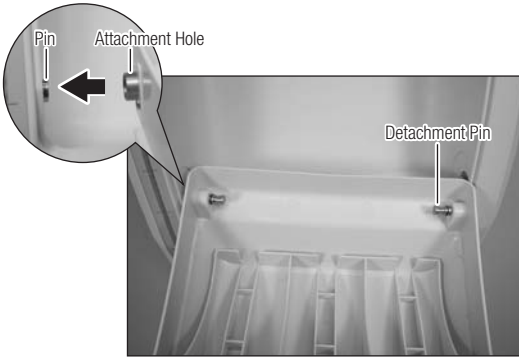

Fig. 17
- 1) Insert the Pin to the left Attachment Hole of the Door. (Fig. 17)